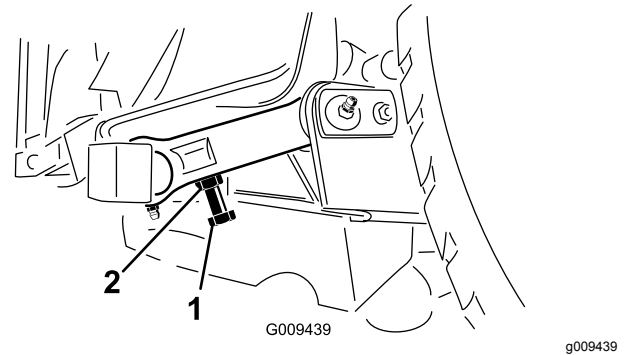

Figure 26
3. To adjust distance, locate adjuster bolt on rear pivot link of the mower deck (Figure 26).